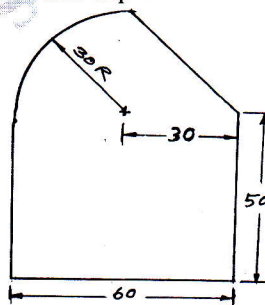

Fig.Q7(a)
- 7 a. Prepare a manual part program to machine the component shown in Fig.Q7(a) below, using an end mill of 20mm diameter and "without using cutter compensation codes". Show the tool path and write comments for each block. The program should be complete in all respects. Assume suitable speed feed and depths.